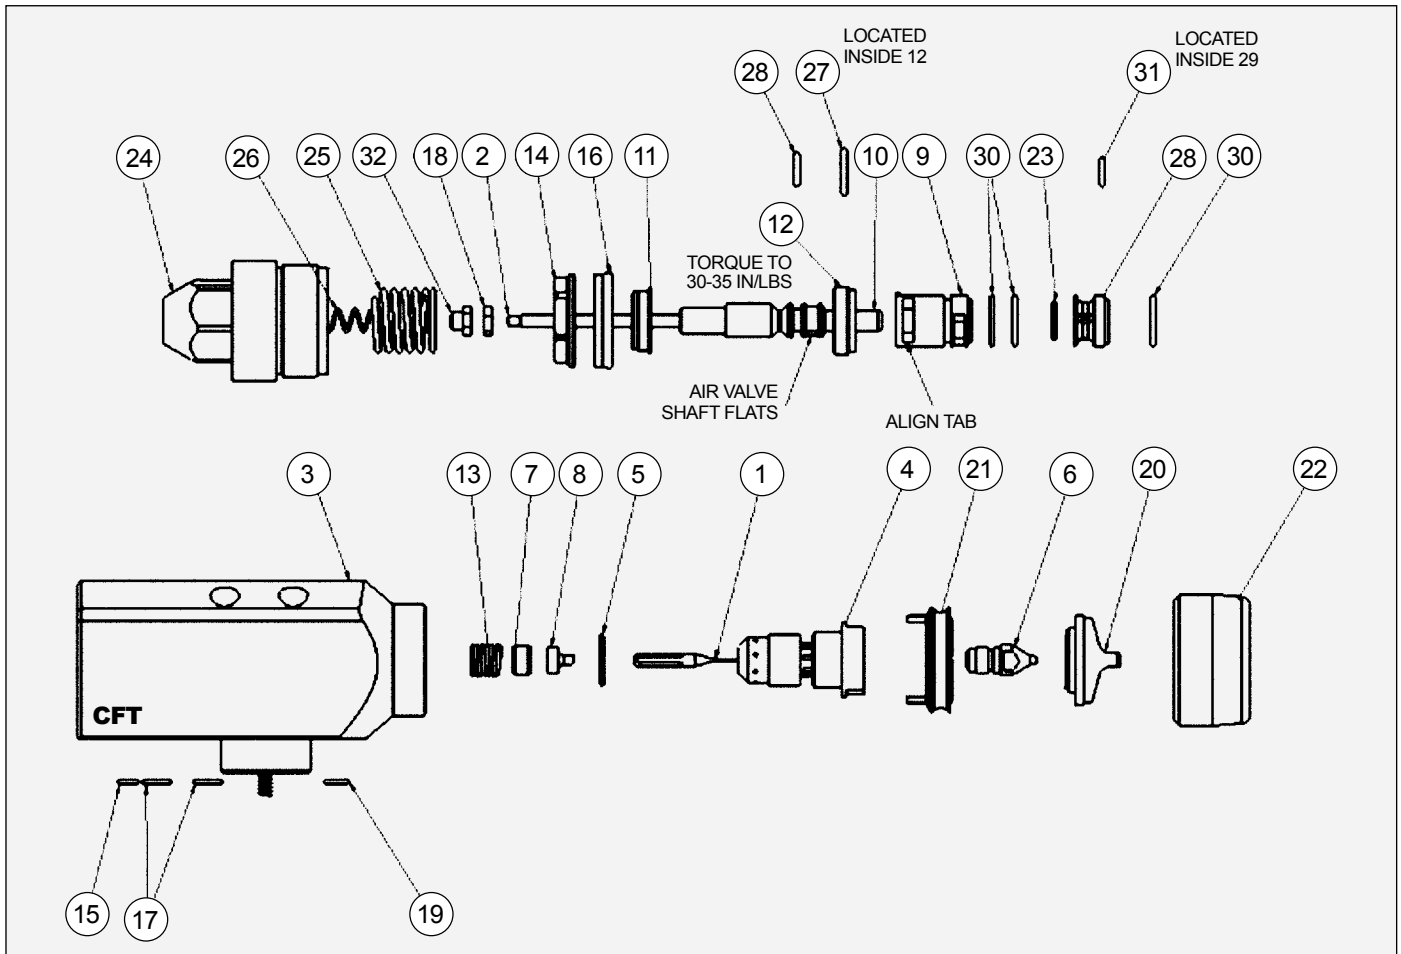

Figure 13: Spray Head Assembly
- After tightening the fluid tip, verify that the gap between the piston nut and jam nuts are 1/16" (1.54mm) and under. Refer to Figure 13.
The spray head can be removed from assembly as shown in **Figure 13** for cleaning and service.
**80432 HEAD SUB ASSEMBLY - PARTS LIST (Figure 13)**
### 80432 HEAD SUB ASSEMBLY - PARTS LIST (Figure 13) (Cont.)